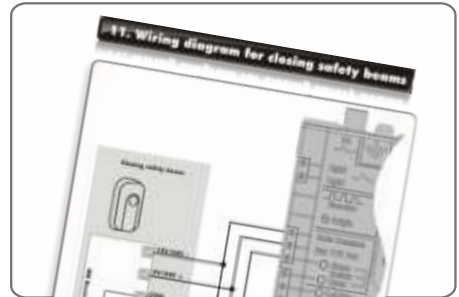
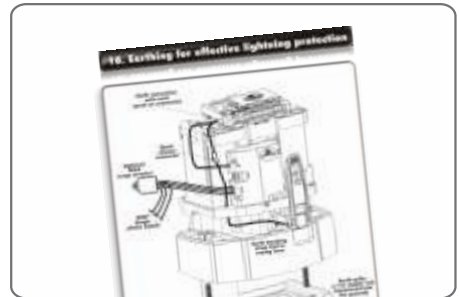

FIGURE 32
FIGURE 33
2. Mount the origin marker to the rack a minimum of 500mm from the origin sensor. Refer to Figure 32, isometric view A or plan view B.
3. Mount the origin marker onto the rack using the bracket provided referring to Figure 32 if mounting onto steel rack or Figure 33 if onto nylon angle rack.
- With nylon angle rack it is preferable to use self tapping fasteners into the side of the nylon angle rack as shown in Figure 33. Take note of the orientation of the origin marker.